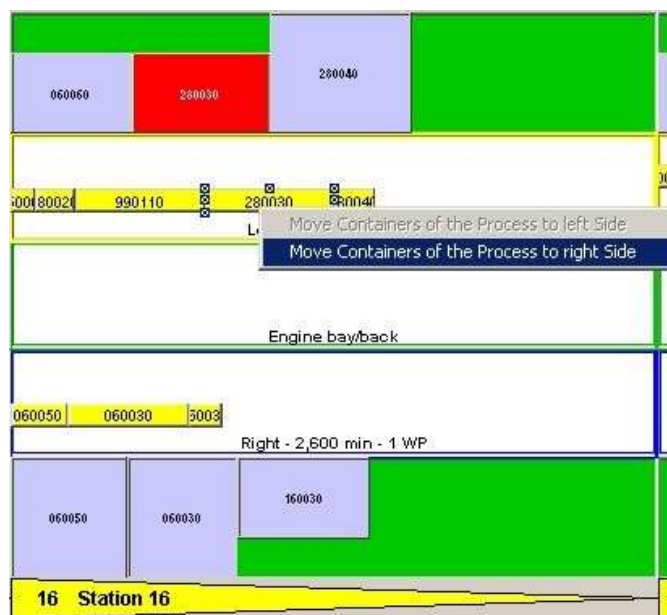

Figure 299: Open Process Contextual Menu
- 2) Click one of the two possible entries. *Please refer to the Figure 299.*